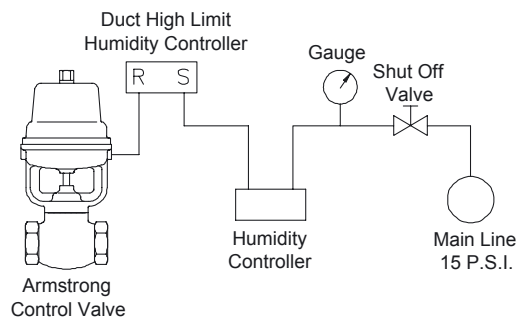

Figure 9-1. Standard compressed air hook-up for pneumatic control.
Piping of air supply to pneumatic control valves are discussed in Figures 9-1, 9-2 and 9-3 while wiring for electric control valves is discussed in Figure 10-1. For more installation information of Armstrong Control Valves, see Installation Bulletin IB-58.
Step 9A: Install Pneumatic Piping in accordance with Figures 9-1, 9-2, or 9-3 or engineer's layout.